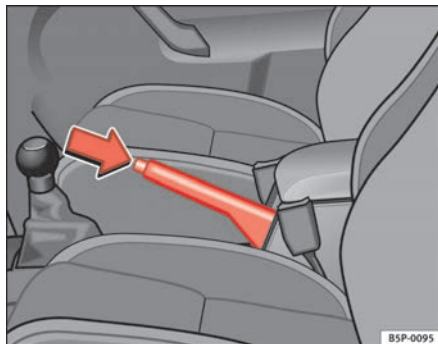

Fig. 144 Handbrake between the front seats
- Pull the handbrake lever up firmly ⇒ **fig. 144**.
- Pull the lever up slightly and press the locking knob in the direction of the arrow ⇒ **fig. 144** and guide the handbrake lever down fully ⇒